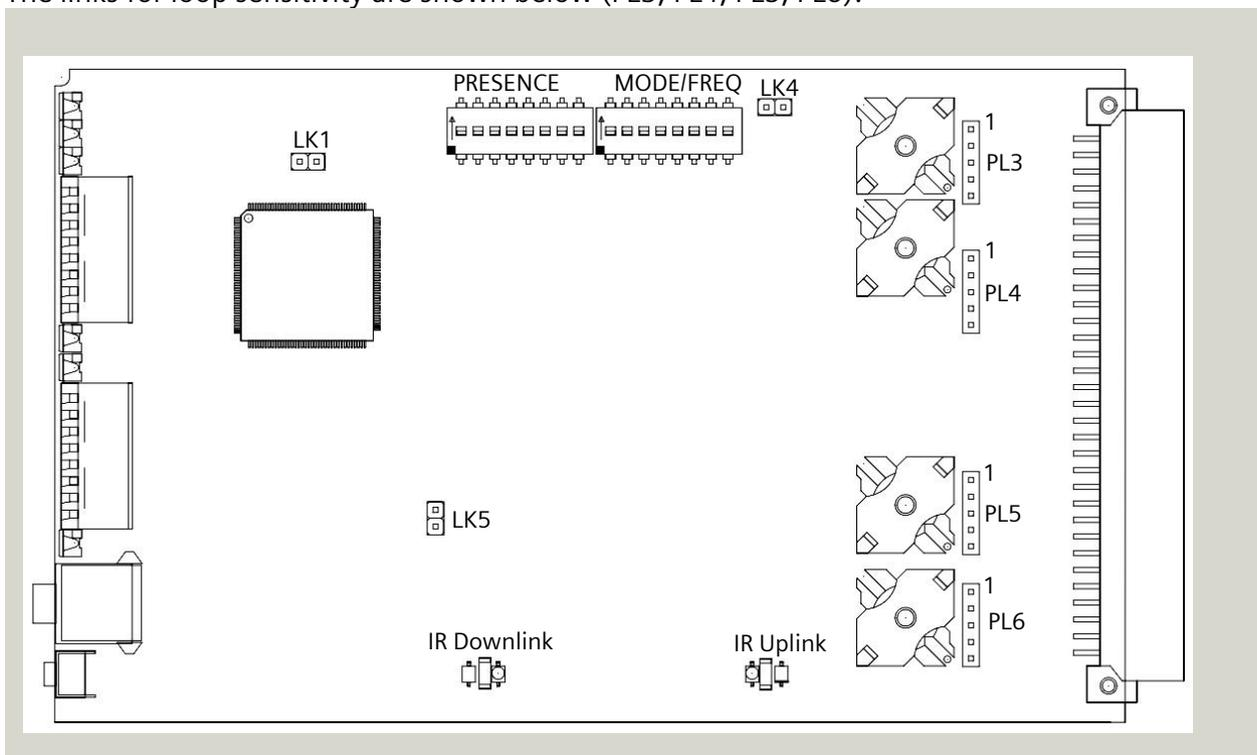

Figure 1: Links for sensitivity (two per loop)
- 1 Click on the Read button to load the current detector configuration into the tool for editing. See Figure 1 below.